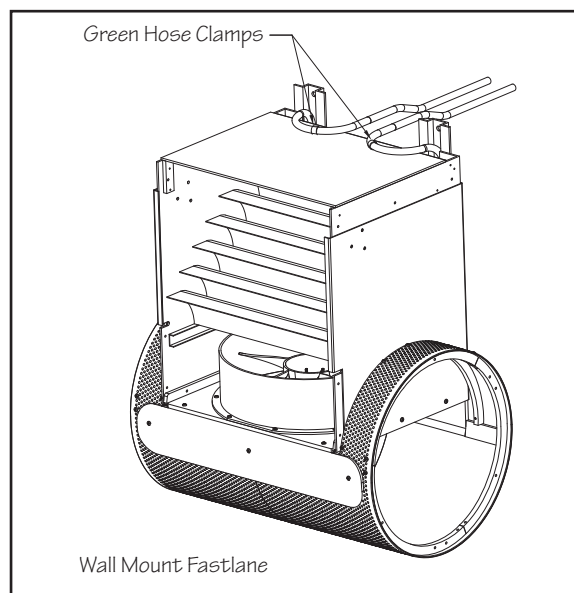

Fig. 6.6B
6.8b) If the hydraulic hoses are to go through the pool wall, attach the two hoses to the top of the upper housing. There are 2 green hose clamps attached to the top of the housing. The screws that are securing the clamps to the housing will have to be removed in order to secure the hoses to the clamps (Fig 6.6B).